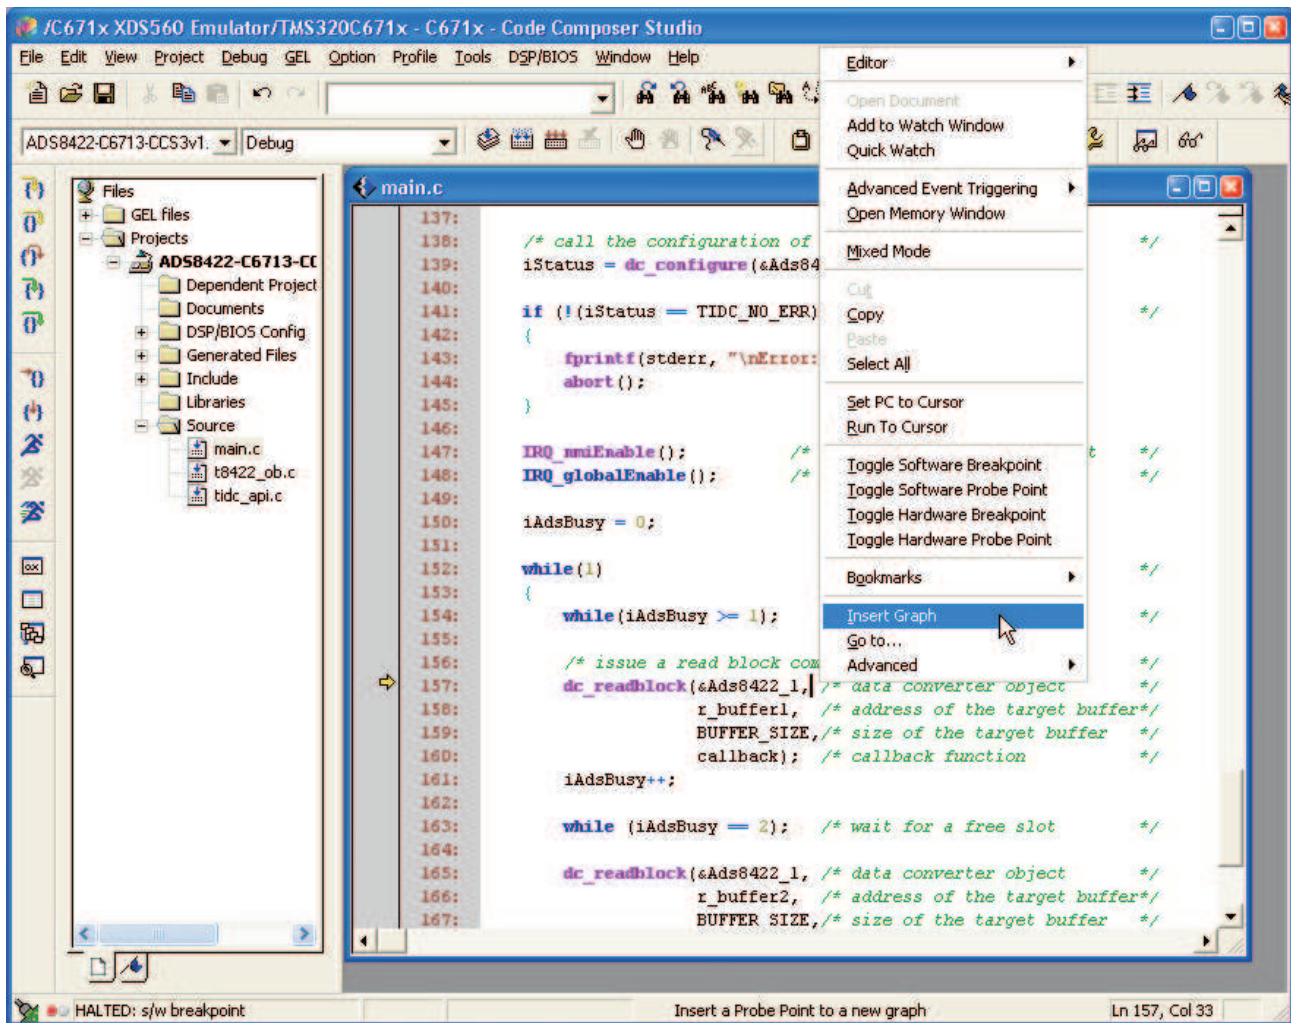

Figure 8. CCS Context Menu
- Set the cursor in front of the *dc_readblock()* command and right-click in this line. A new pop-up menu opens; select *Insert Graph* (see Figure 8).